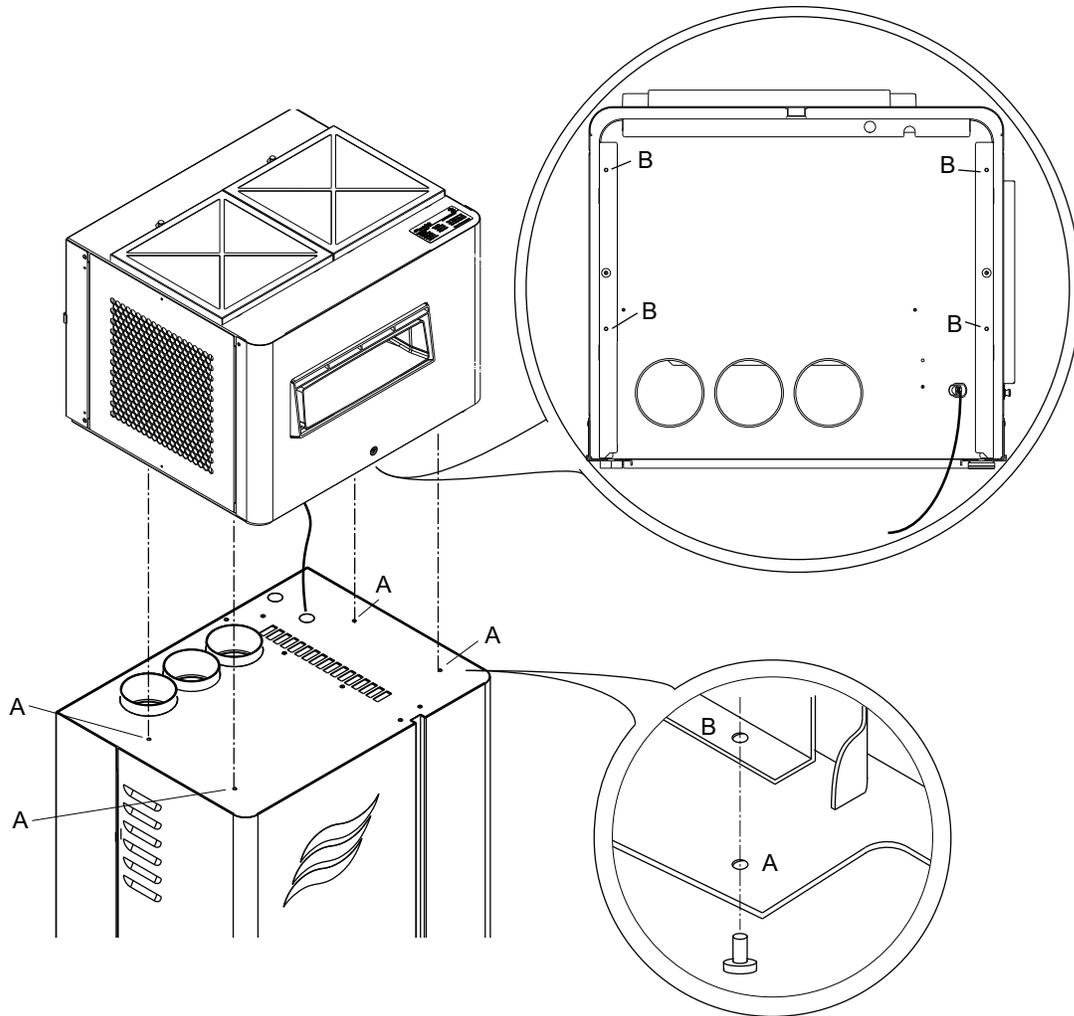

Figure 12 - Direct-mounting the Ultrasonic Blower Pack to the Humidifier
- b. Align the Ultrasonic Blower Pack mist inlet with the ultrasonic humidifier mist outlet, and ensure that holes A (on the humidifier) and B (on the blower pack) are aligned, as shown in Figure 12 - on the next page.
- c. From the ceiling of the humidifier, fasten the Ultrasonic Blower Pack to the top of the humidifier with M4x6 mm screws (supplied). Refer to Figure 12 - on the next page. From inside the plumbing section of the humidifier, the Ultrasonic Blower Pack's mist channel should extend beyond the ceiling.